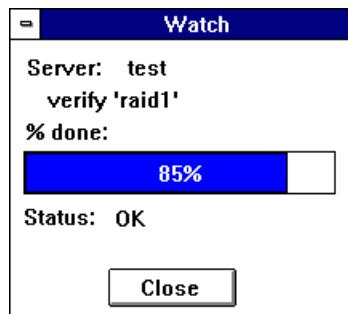

Figure 11-3. Watch Window
- 3 Click the **Watch** button. A small Watch window for this activity appears, as shown in Figure 11-3. Each window has a percent complete graph and a Status field (OK, Done, Failed). If a Verify operation is running, there is also a field listing the number of miscompares found. Click **Close** to close the Watch window after the activity has completed.